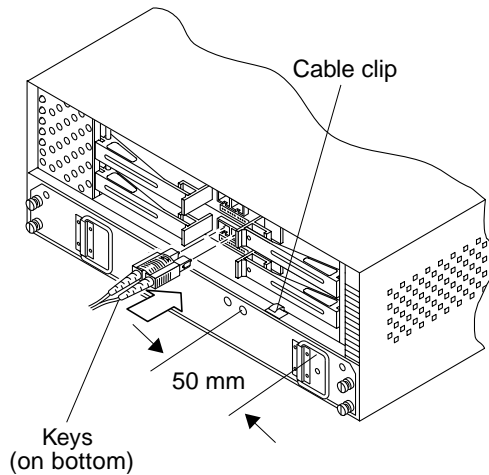
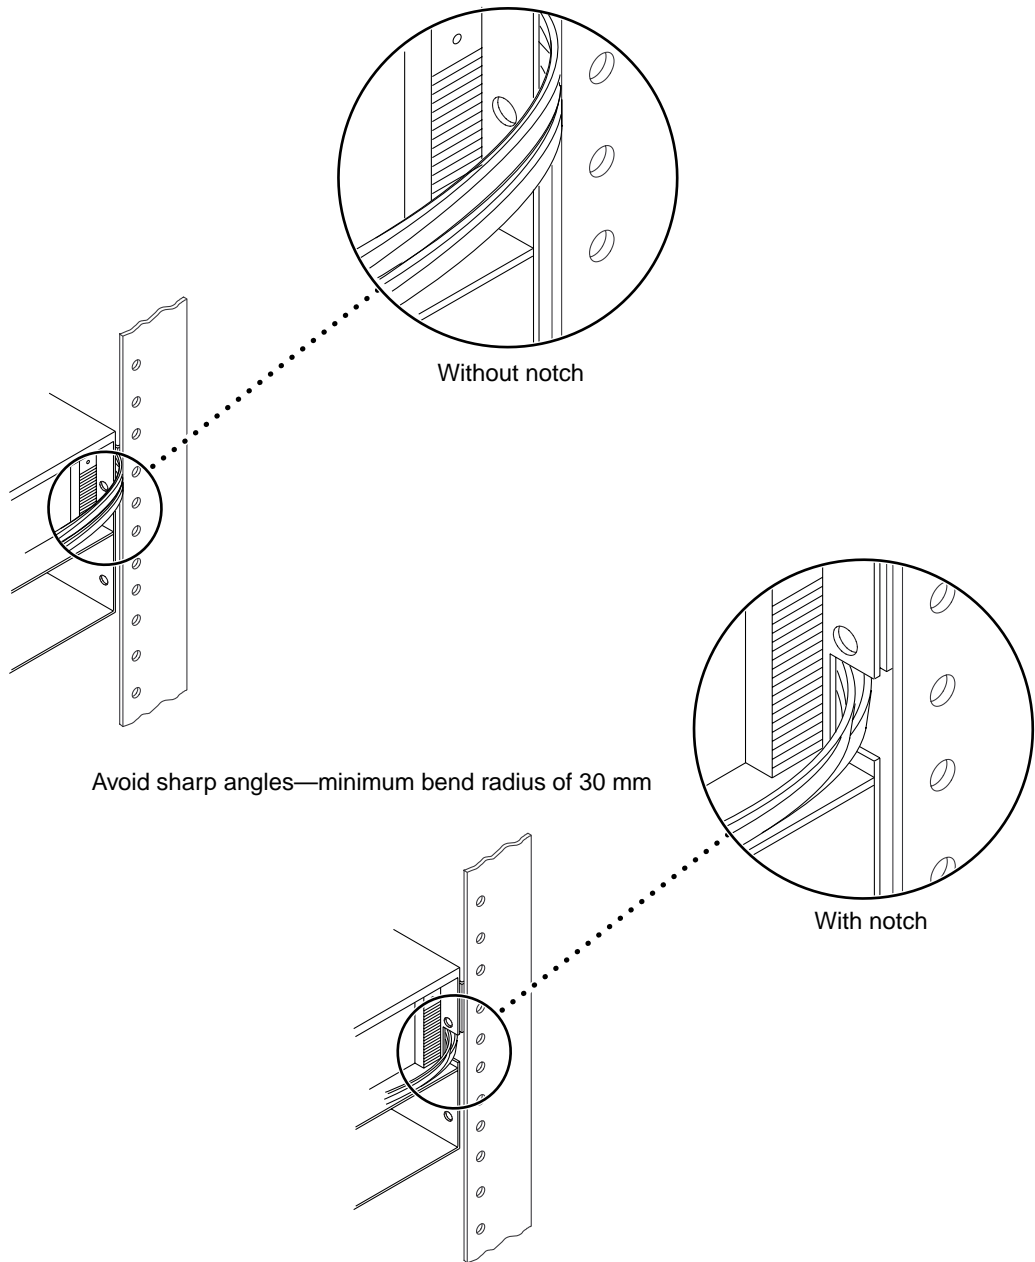
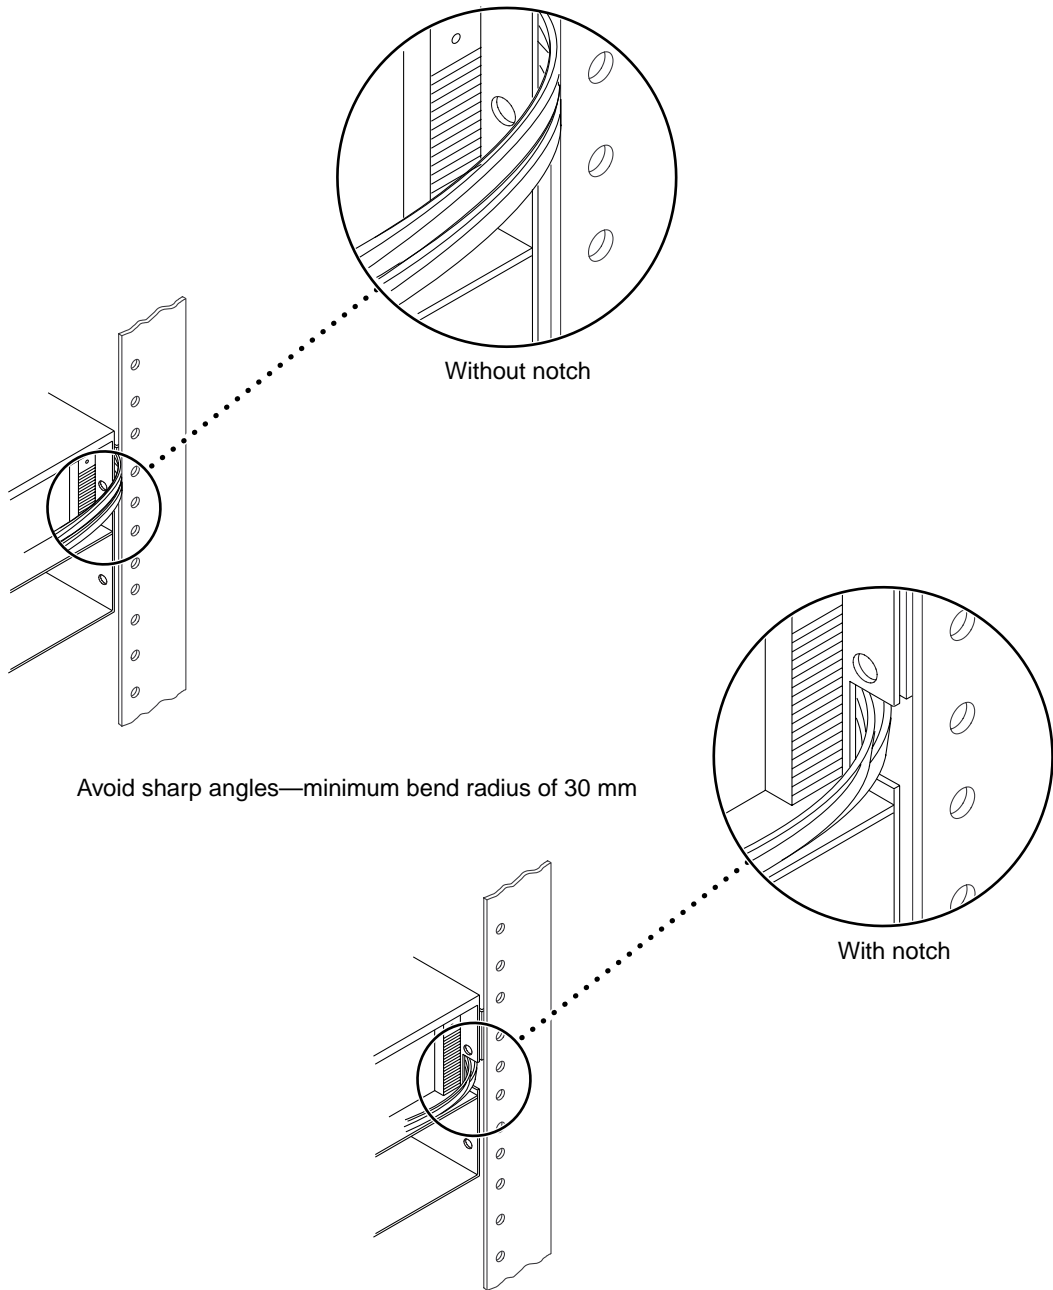

FIGURE 2-12 Fibre Optic Port on the Controller Module
FIGURE 2-13 Routing the Fibre Optic Cable
FIGURE 2-15 Routing the Fibre Optic Cable
See FIGURE 2-12 for the location of the cable clip on the controller module chassis.
- c. Route the two fibre optic cables through the cable clip mounted on the controller module chassis (FIGURE 2-12) and through the opening on the front, right-side of the chassis between the mounting rail and the side panel (FIGURE 2-13).
- 11. Connect the end of each fibre optic cable to a port on the controller module** (FIGURE 2-12).
Note – The fibre optic cable connectors are keyed to prevent improper insertion; they can only be installed as shown in FIGURE 2-12.
c. Route the two fibre optic cables through the cable clip mounted on the controller module chassis (FIGURE 2-12) and through the opening on the front, right-side of the chassis between the mounting rail and the side panel (FIGURE 2-15).
- 7. Connect the end of each fibre optic cable to a port on the controller module** (FIGURE 2-12).